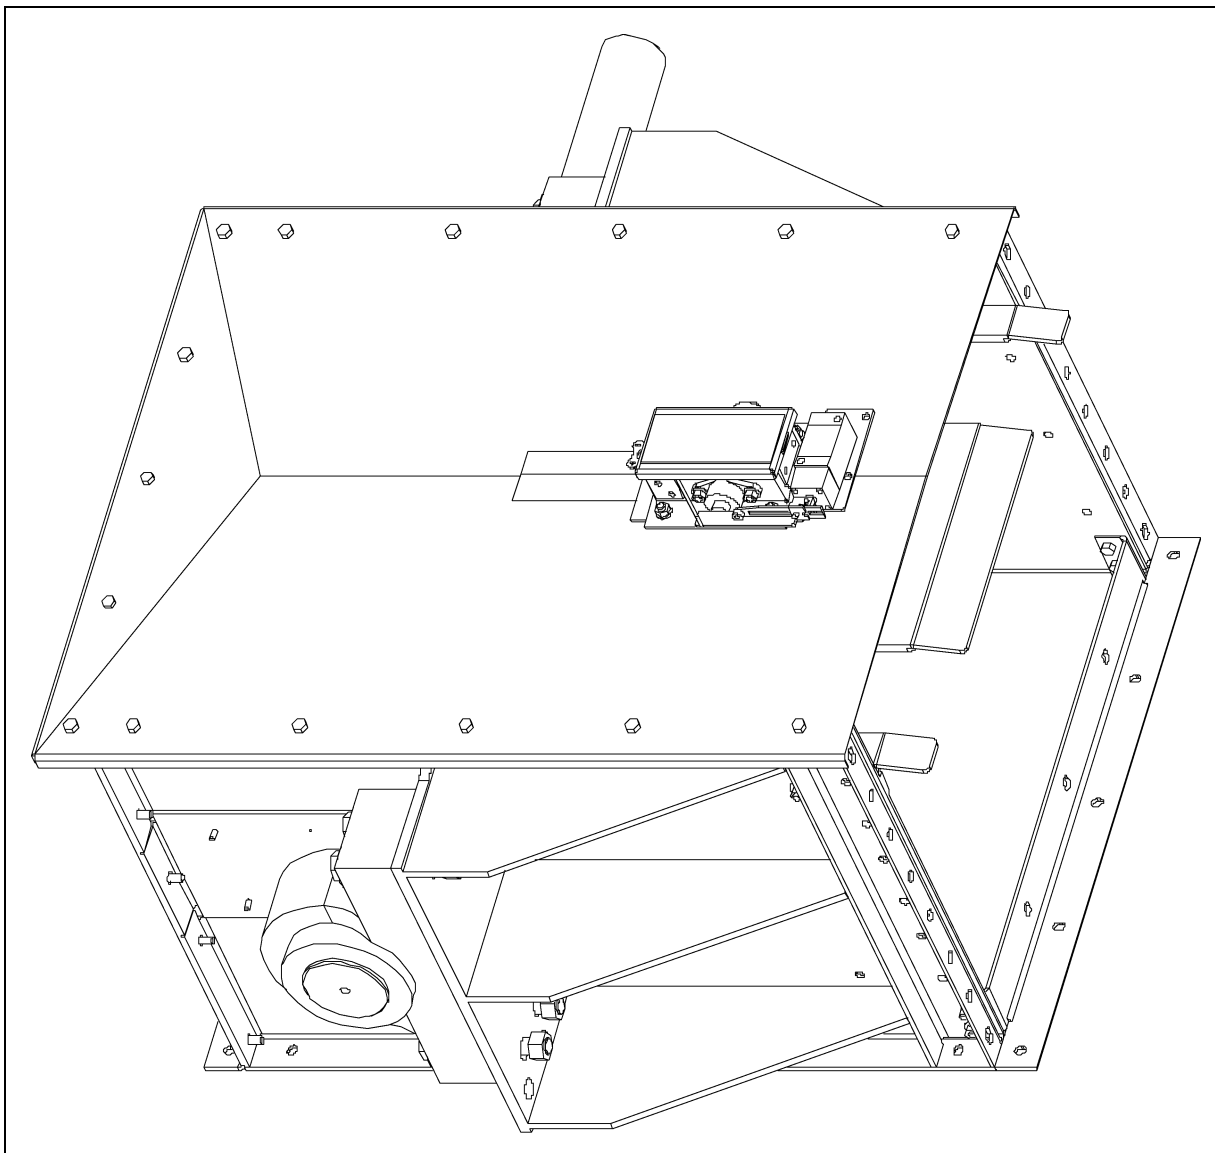

Figure 10D *Slack Chain Detector*
3. Install the detector in the orientation shown using the removed flange nuts. *(See Figure 10D.)*